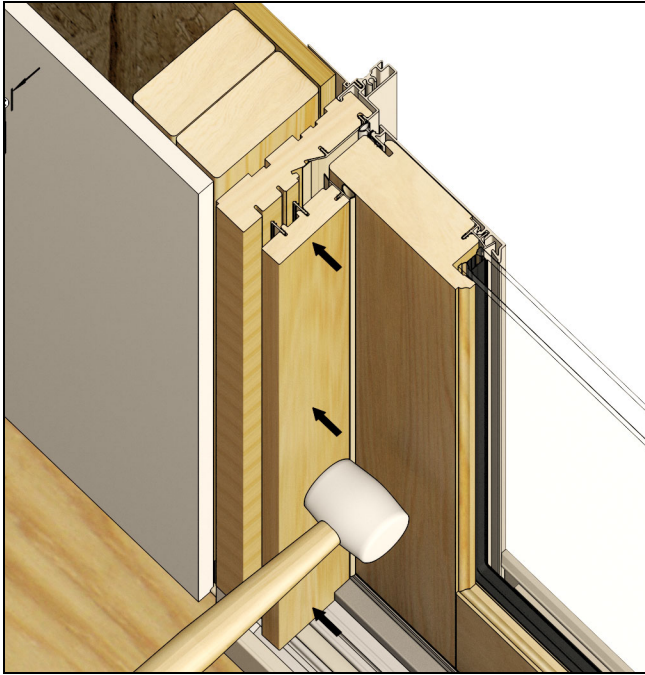

Figure 29
1. To install the interior wood covers, align the set of connecting bars installed in the wood cover into the kerfs in the jamb. Use a rubber mallet, starting at the top and working your way down, to gently hammer the cover until it is fully seated. See Figure 29.